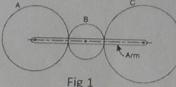

Fig 1
1. In an epicyclic gear train, as shown in Fig 1, the number of teeth on wheels A, B and C are 48, 24 and 50 respectively. If the arm rotates at 400 rpm., clockwise, find : 1. Speed of wheel C when A is fixed, and 2. Speed of wheel A when C is fixed. [Ans. 16 rpm. (clockwise) ; 16.67 (anticlockwise)]